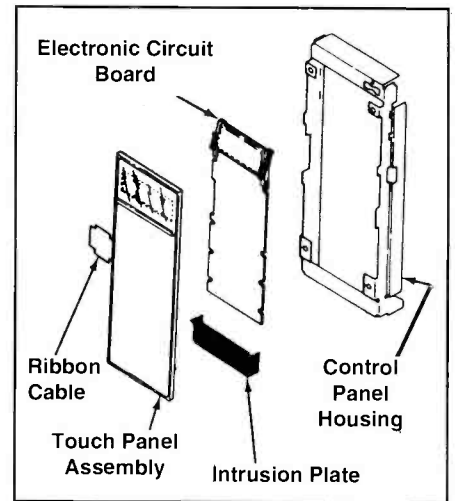

Figure 6. A microwave oven control Circuit/Touch Panel Assembly
The control panel used in the sample oven contains a printed circuit board, a touch pad, triac, a browner relay, fan relay, and an on/off switch. Most manufacturers consider the components found on the control panel as one unit and require the replacement of the entire assembly if one portion fails. Figure 6 shows the integration of a typical circuit panel/touch panel assembly.
**Figure 6.** Scan-derived voltage supplies utilize the waveform shown in Figure 6 to produce: a positive-retrace rectified supply, a positive-scan rectified supply, a negative-polarity-retrace rectified supply, and a negative polarity scan rectified supply. The figure shows which points of the waveform correspond with the four power supply types.